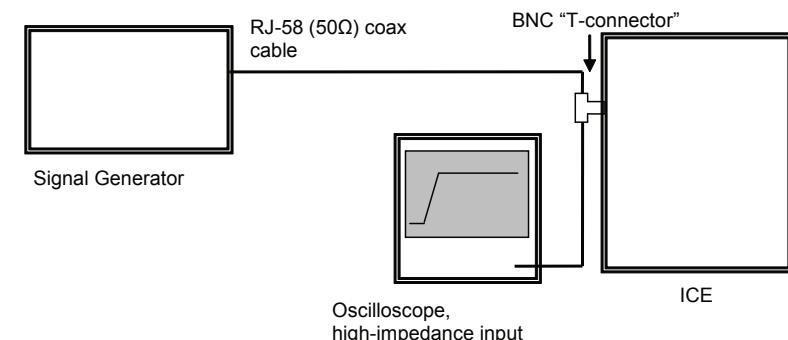

Figure 30 Preferred Method of Measuring Trigger Signal
- If it is not clear that the signal generator is driving the signal properly, measure the trigger signal using the method shown in Figure 30. Connect to the trigger signal circuit using a BNC “tee”. Verify that the oscilloscope input is in high-impedance mode (greater than 1 MΩ).